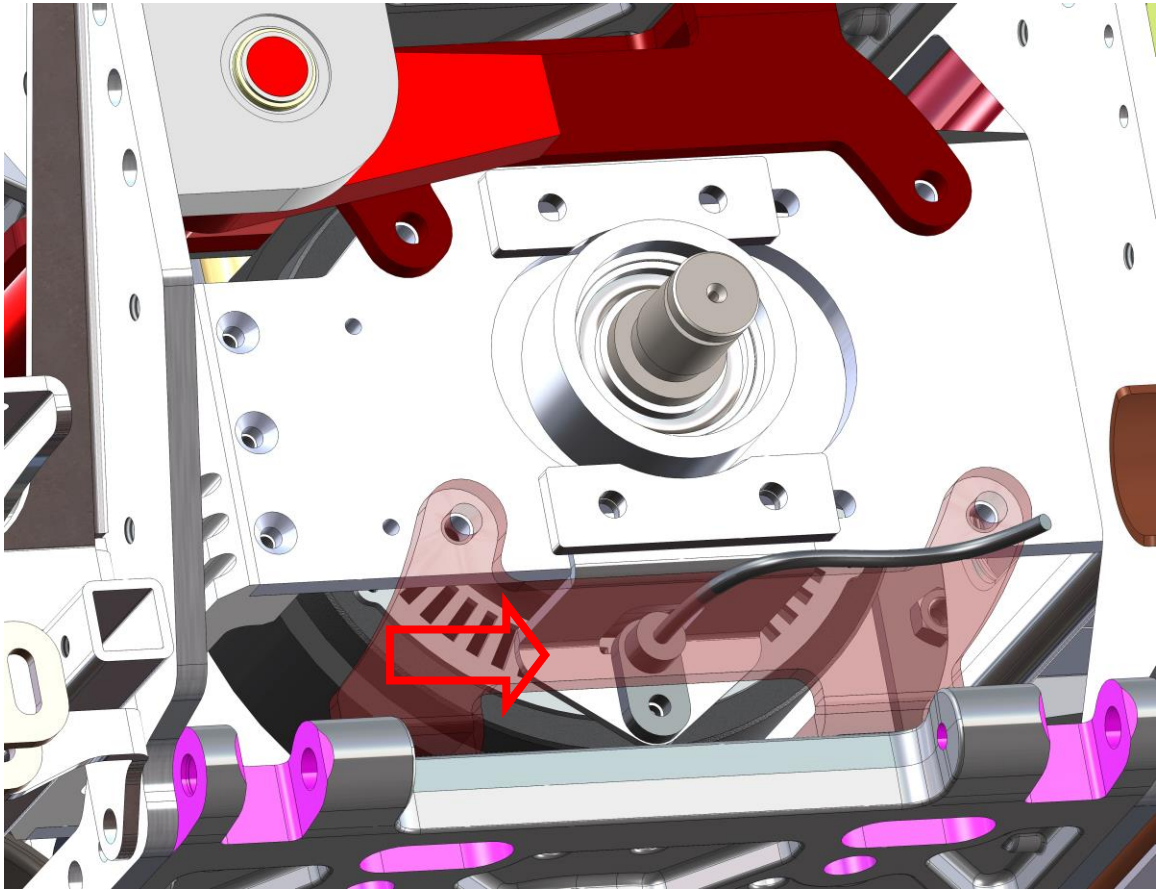

fig 4
2. Install the rear wheel speed sensor on the mount located near the rear differential using the OEM fastener (see fig 4).